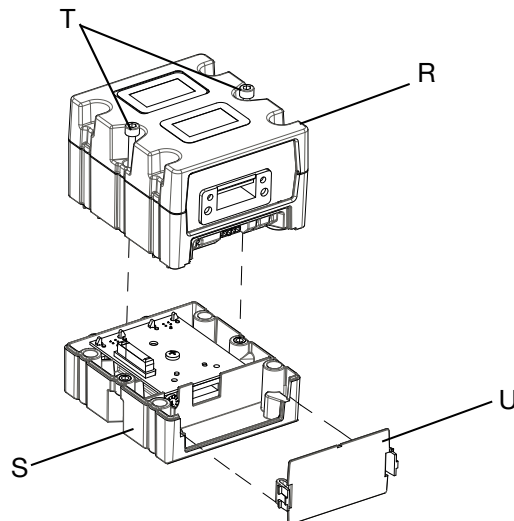

FIG. 24: Disassembling the CGM
5. Remove the access cover from the CGM (U). Loosen the two screws (T) and remove the CGM (R) from the base (S) as shown in **FIG. 24**.